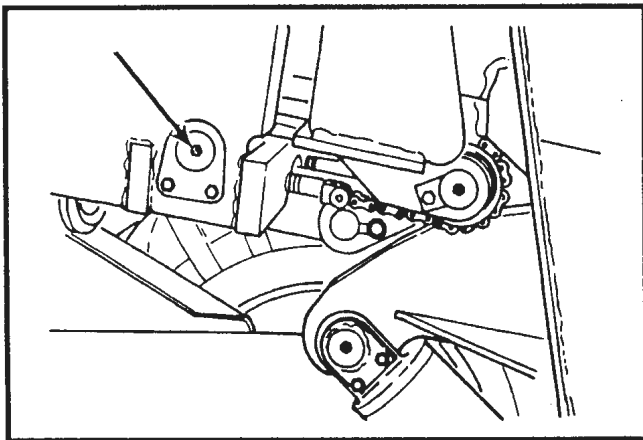

Figure 9-9. Boom Roller Lube Point
Lubricate the boom rollers (boom load rollers) (2 fittings) with MPG-EP grease. Refer to the Lubrication Chart, Figure 6-1, item 19, and Figure 9-9.